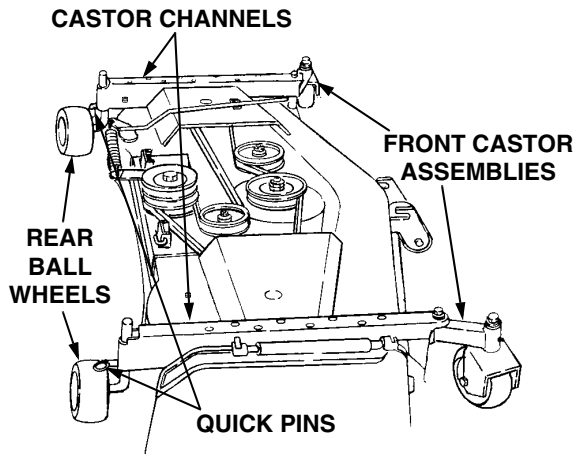

Figure 27
2. To aid in sliding the deck under the tractor, reposition all four ball wheels as shown in Figure 27. To reposition the rear wheels; remove the quick pins, rotate the rear wheels 90°, and raise them to their uppermost position in the castor channels. Install the two quick pins in the rear holes of the castor channels to secure the rear wheels in this position. Temporarily remove the quick pins and rotate the front castor assemblies outward. The deck should be in its lowest position.
2. To ease sliding the deck out from under the tractor, reposition all four ball wheels. To reposition the rear wheels; remove the quick pins, rotate the rear wheels 90°, and raise them to their uppermost position in the castor channels. Install the two quick pins in the rear holes of the castor channels to secure the rear wheels in this position. Temporarily remove the quick pins and rotate the front castor assemblies outward. Refer to Figure 27.